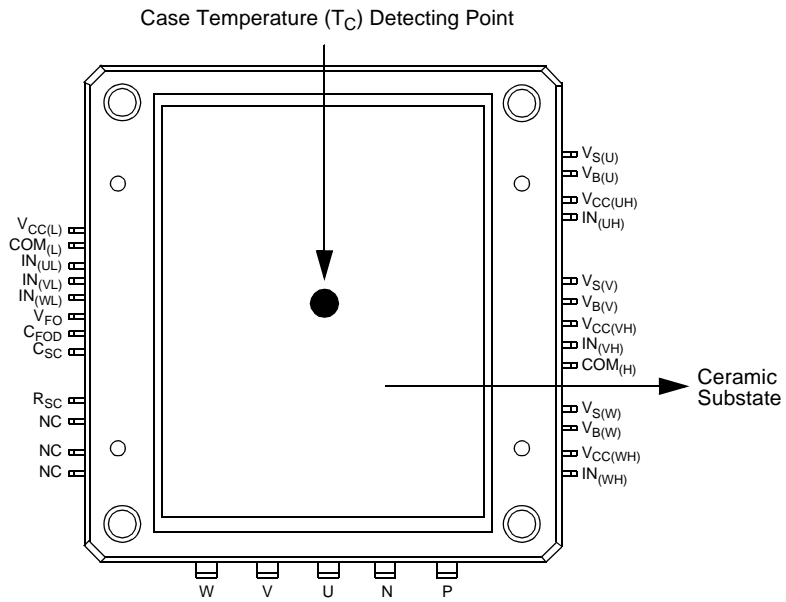

Fig. 4.  $T_c$  Measurement Point
2. For the measurement point of case temperature ( $T_c$ ), please refer to Fig. 4.